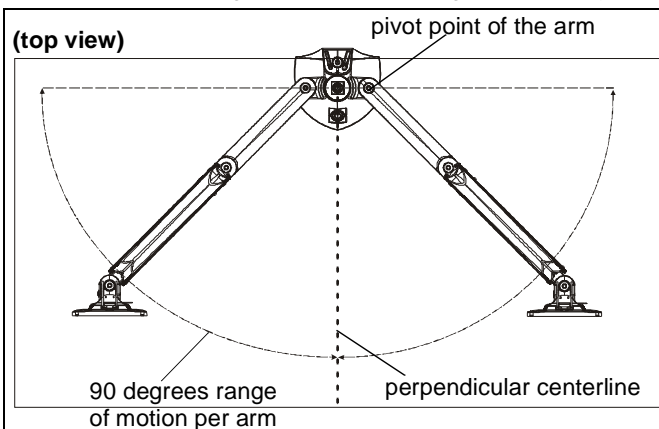

Figure 27
1. Adjust arm angles as desired within a 90 degree range from the pivot point of the arm and a perpendicular centerline of mount. (See Figure 27)